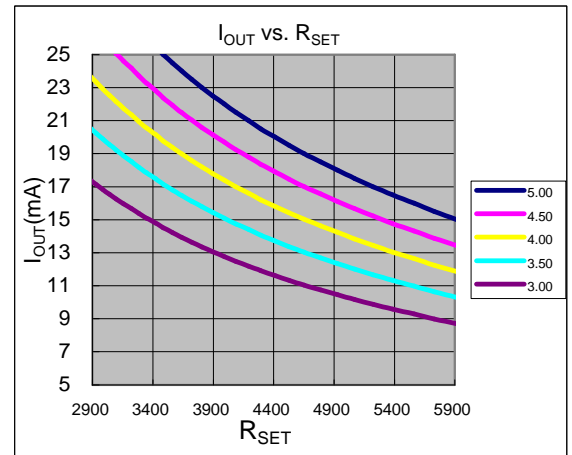

Fig. 4 I_{OUT} vs. R_{SET} at V_{DD}= 5V, 4.5V, 4.0V, 3.5V and 3.0V
** I_{OUT} vs. R_{SET} @ different power supply is shown in Fig.4.
Also, users can choose a suitable value of $R1$ via the above equation when I_{OUT} is known. A typical operating characteristic of I_{OUT} vs. R_{SET} is shown in Fig. 4.